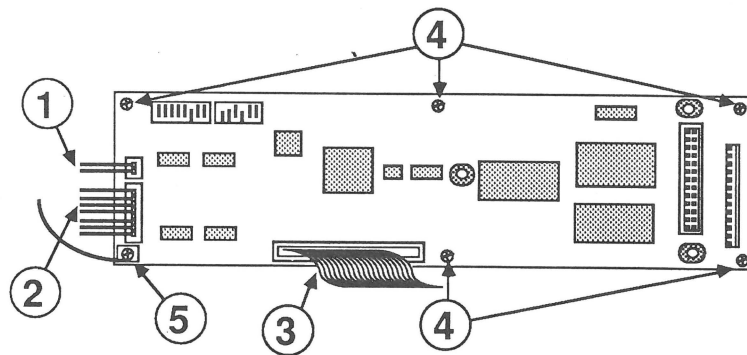

FIGURE 4
4. Remove the three connectors. (Figure 4, #1 is a two-pin; #2 is an 8-pin; and #3 is a 50-pin ribbon cable.)
5. Remove the five screws (Figure 4, #4).
6. Remove the sixth screw, which holds the grounding strap (Figure 4, #5).
2. Install the five screws (Figure 4, #4).
3. Install the sixth screw, which holds the grounding strap (Figure 4, #5).
4. Plug in the three connectors (Figure 4, #1, #2, and #3).